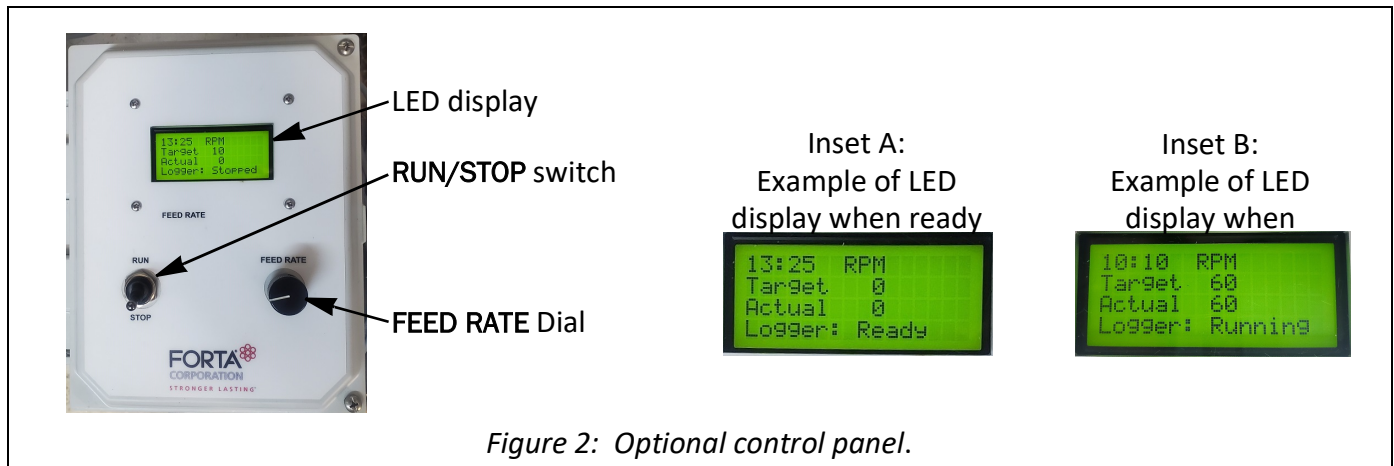

Figure 2: Optional control panel.
The optional control panel (Figure 2) provides complete control of the Ranger with simple controls. When power is supplied to the control panel, the LED display will show a *Logger* status of:
- *Ready* when the RUN/STOP switch is in RUN position and the FEED RATE dial is set to zero - the Ranger is ready to operate (see Inset A of Figure 2)
- *Running* when the RUN/STOP switch is in RUN position and the FEED RATE dial is set to a value greater than zero - the Ranger is operating to attain the set *Target* RPM (see Inset B of Figure 2)